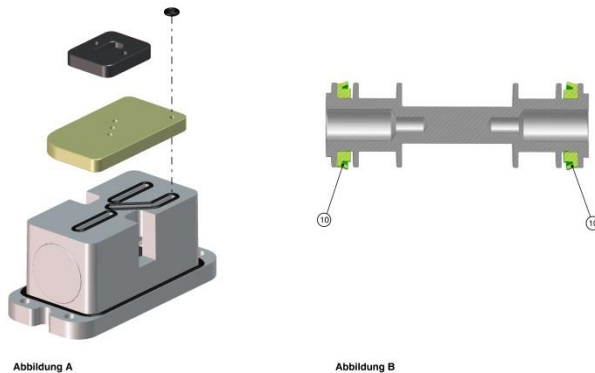

Fig. 8: Position of the ceramic plate
10. Insert the mounted pneumatic valve block (E) (see Fig. 6) in the middle section of the pump. The install direction is shown in Fig. A (see Fig. 8).
11. Insert the main valve gate valve (8) with the closed side in front in the pneumatic valve block (E). The main valve gate (8) must be inserted so that the piston rod can move the gate valve (G).
12. Insert the O-ring (6) in the pneumatic valve block (E).